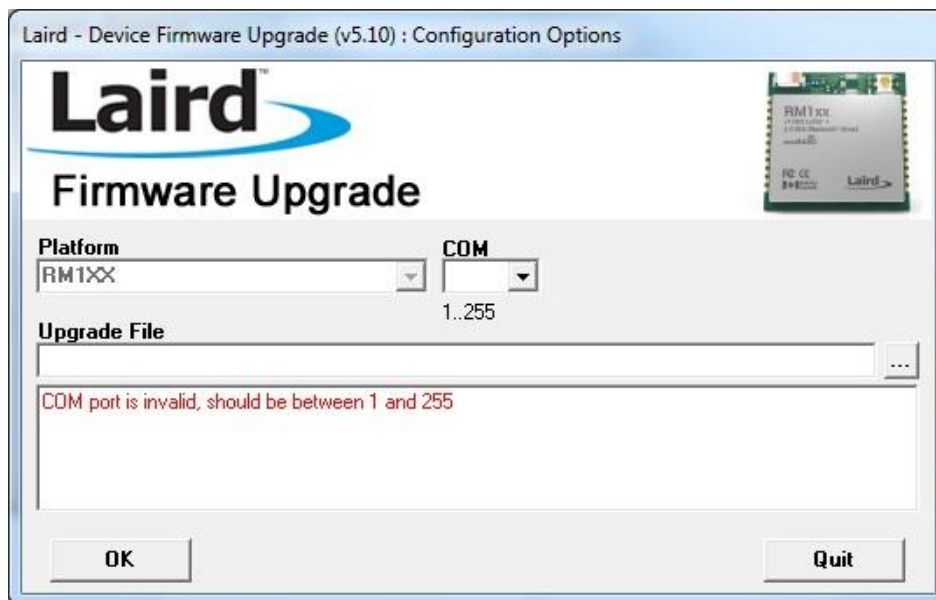

Figure 3: RM1xxUartFwUpgrade launch screen
To try to reduce the chance for errors, two versions of the upgrade utility (v5.10) have been created – the RM1xxUartFwUpgrade (as before) and the RM1xxPeUartFwUpgrade. These utilities are basically identical, with the exception that one has been configured for the central device and the other one for the peripheral. The Firmware Upgrade launch screen (Figure 3) shows the Platform drop-down is configured with the correct module type and cannot be changed.
3. Start **RM1xxUartFwUpgrade.exe** to display the launch window. There may be several information screens shown at launch. Select the option that allows you to continue to the screen shown in Figure 3.